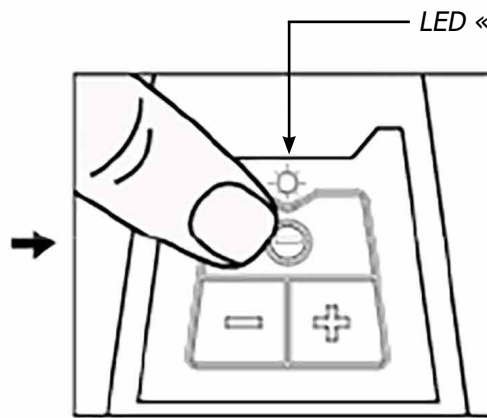

Figure 2
2. Press the power on/off button "  $\Theta$  " on the button plate to switch on the sander. The LED indicator shows " flash green " color after sander being switched on. - see figure 2.